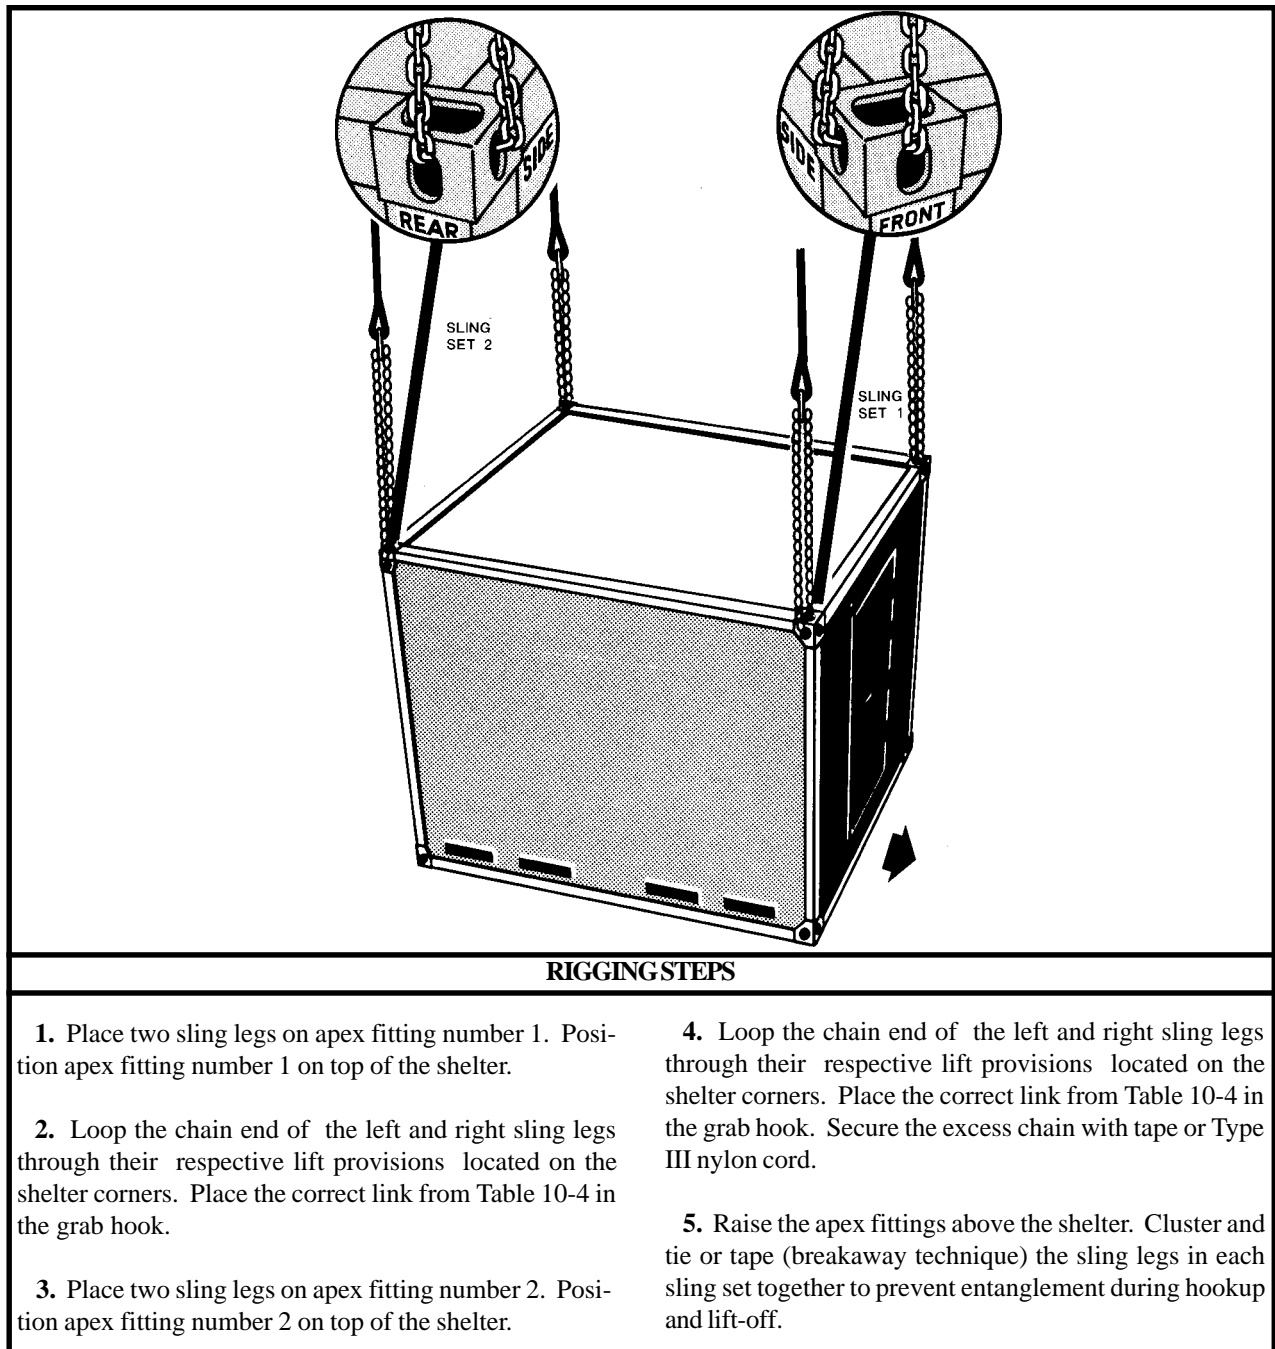

Figure 10-4. 8-x 8-x 10-Foot Shelters
(2) **Rigging.** Rig the load according to the steps in Figure 10-4.